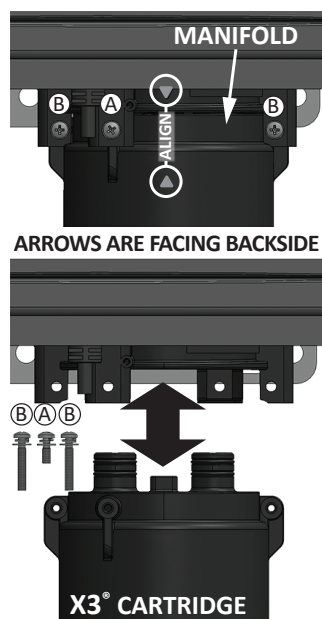

Figure 20 - X3® Cartridge Installation
- 2 Locate the three (3) screws provided in the hardware bag on the top of the water heater carton. Set the one **(A)** screw (M4-12mm) and two **(B)** screws (M4-25mm) aside in a safe place (Figure 20).
NOTICE: The X3® cartridge is keyed to only install in one direction. Align the **▲** on the X3® cartridge with the **▼** on the manifold (arrows will be back facing for TI & TO series heaters). When inserting the X3® cartridge, push up until the screw holes align. Some resistance is normal. See Figure 20 for reference.
- 4 Remove the two **(B)** screws and the one **(A)** screw securing the X3® Cartridge to the manifold located on the underside of the water heater cabinet. Set the screws aside in a safe place for re-installation. Note the order of the screws when removing them. Reference Figure 20.